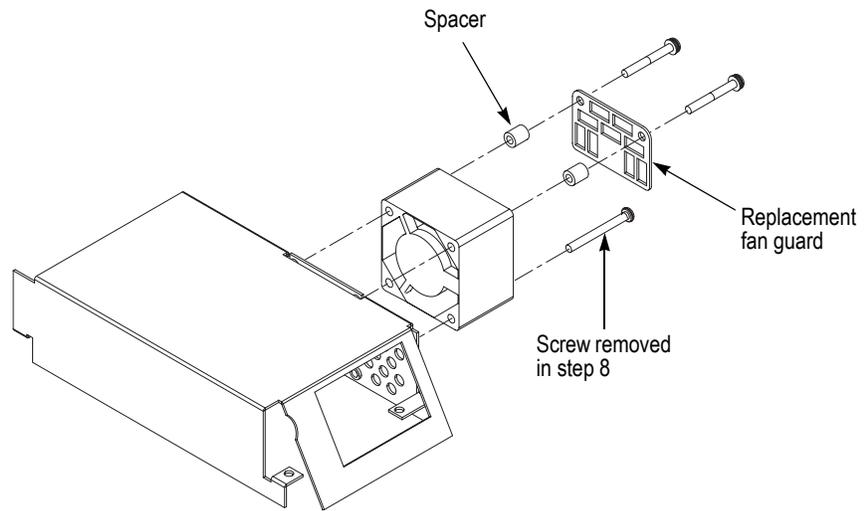

Figure 10: Installing the replacement fan guard and spacers
10. Position the replacement fan guard and two spacers provided in the kit as shown in Figure 10.
11. Secure the fan guard and spacers to the power supply shield using the two screws provided in the kit. See Figure 10.
12. Secure the bottom of the fan to the power supply shield using one of the screws removed in step 8. See Figure 10.